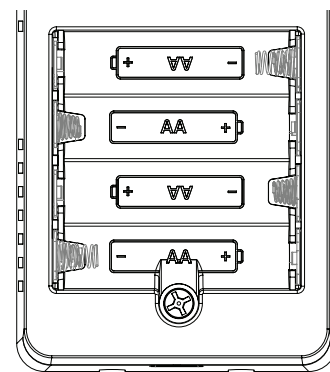

fig. 3
3. Install 4 AA batteries with the polarity as indicated on the ACC-TSENWIFI housing. (see fig. 3)